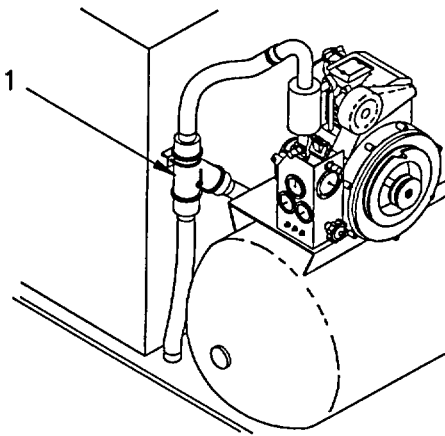

Figure 2-6. Engine Exhaust System
f. Engine Exhaust. (Refer to Figure 2-6).